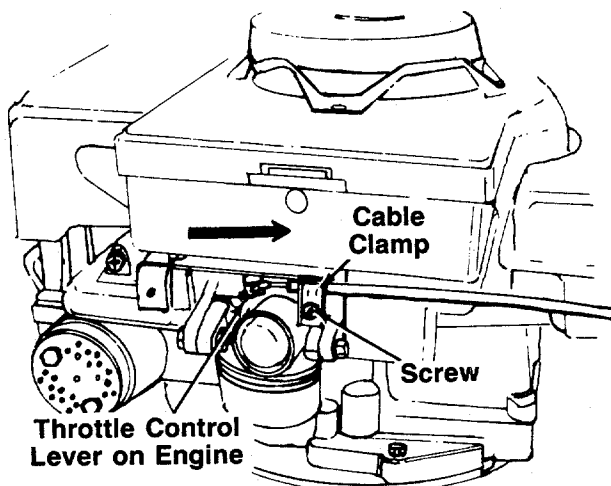

FIGURE 6A.—Models 441R & 451R
2. The throttle control cable is attached to the upper handle. Route the throttle control cable under the lower handle and inside the handle mounting bracket. Hook the "Z" end of the throttle control cable into the control lever on the engine as shown in figure 6A.
3. Loosen (do not remove) the screw on the cable clamp shown in figure 6A. Slip the control casing under the clamp (cable must move freely beneath the clamp).